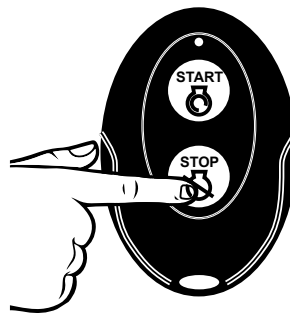

Figure 14 - Remote Stop - Click Stop Button
4. To stop generator remotely simply push the **STOP** button on the wireless control (see figure 14). The generator will run for an additional 15 seconds as it goes through a cool down cycle before shutting off.